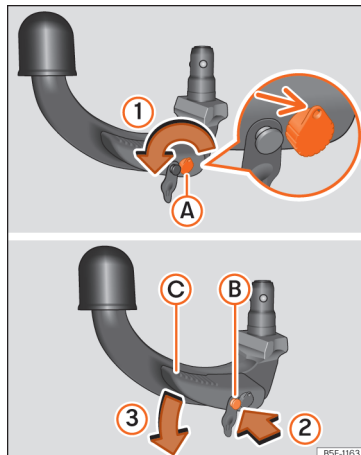

Fig. 170 Tow hook reserve position
- Insert and turn the key in the direction of the arrow » **Fig. 170 ①** until the hole in the key faces upwards (arrow).
- Press the release bolt » **Fig. 170 B** in the direction of arrow **②**, while pressing lever **C** in the direction of arrow **③** as far as it will go.